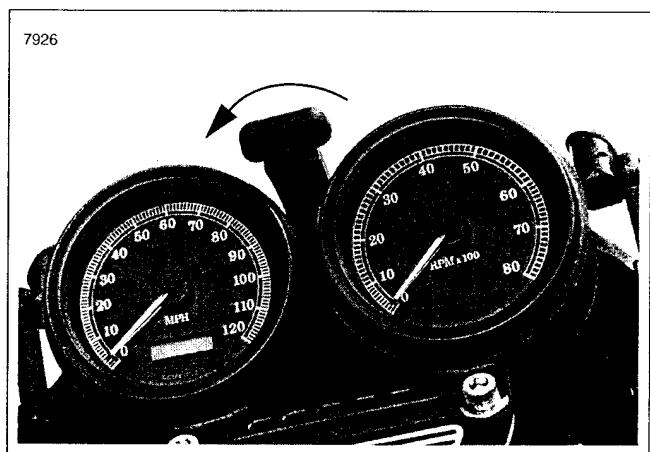

Figure 2-136. Rotate Counterclockwise to Retract Windshield
- g. Install screws (1) into spacers inside lower windshield mounts.
- h. Tighten lower windshield mounting screws (1) to 9-11 **in-lbs** (1.01-1.24 Nm).
- i. Tighten upper windshield mounting screws (4) 9-11 **in-lbs** (1.01-1.24 Nm).
- j. See Figure 2-136. Rotate adjusting knob on gearbox assembly (20) counterclockwise several times to retract windshield.